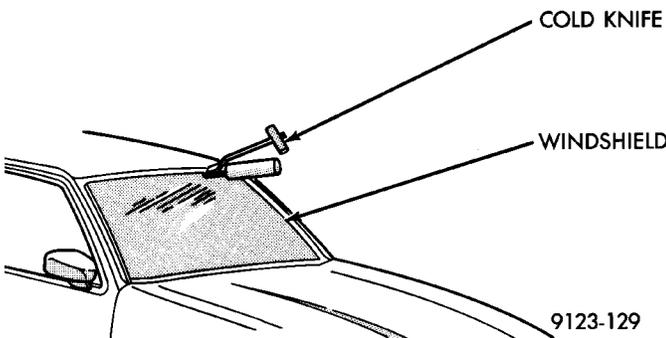

Fig. 2 Cut Urethane Around Windshield
- (6) Using a sharp cold knife, cut urethane adhesive holding the windshield to the A-pillars, roof header and cowl pinch weld fences (Fig. 2). A power cutting device can be used if available.
- (7) Separate windshield from vehicle.